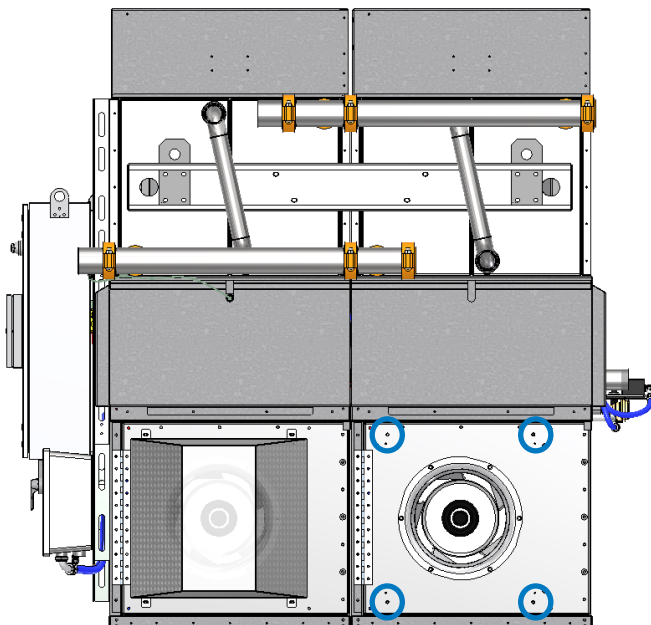

Figure 24a. Fan Guard Installation Step 1
1. Remove the fastener from the EC Fan System panel. The fastener will be reused in step 2. See **Figure 24a**.